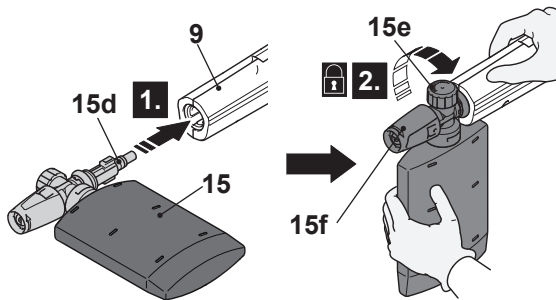

Fig. 15
2. Align and insert the tongues (15d) of the soap tank (15) with the grooves of the spray gun (9) connection port (Fig. 15, step 1).